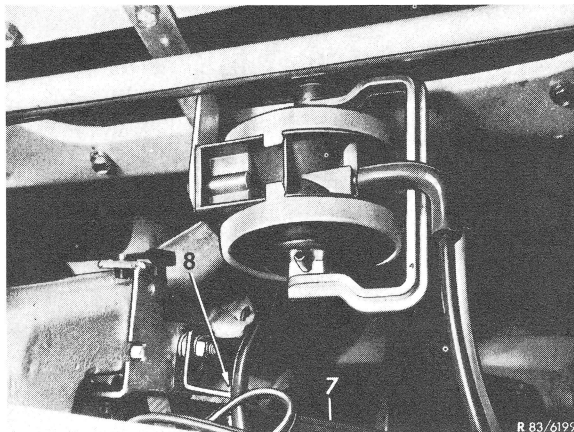

Fig. 4
- 8** Unscrew screw (8) on lefthand air duct (7) (Fig. 4).